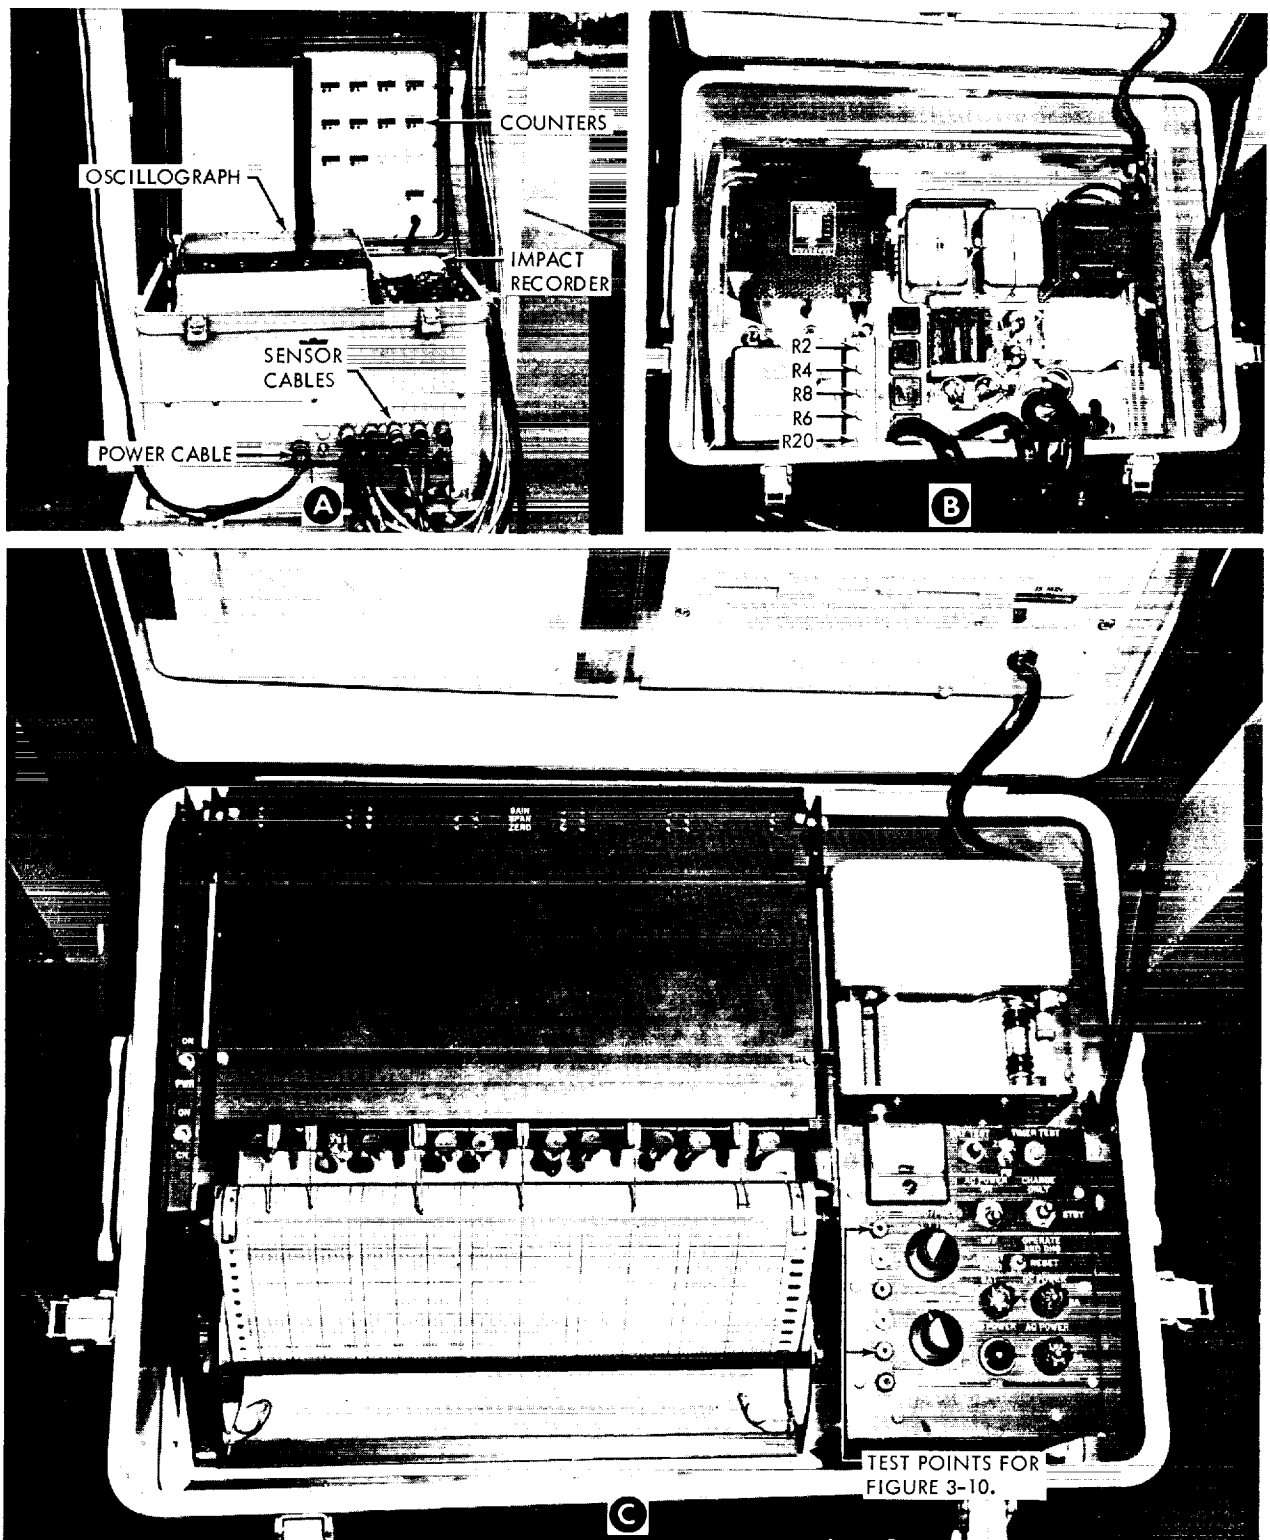

Figure 3-9. Transporter Data Recording Equipment Checkout
3-14. TRANSPORTER DATA RECORDING EQUIPMENT CHECKOUT. Checkout recorder equipment per figure 3-9 as follows:
- g. Connect the cables between the sensor modules and the recorder as per figure 3-9, detail A.
h. Set the control panel switches to the following positions per figure 3-9.
- m. Place the ZERO/F.S. switch in the ZERO position to energize the zero calibration circuits, per figure 3-9, details B and C.
- q. Measure the zero calibrate voltage at the input test point for channel 1 of the oscillograph. If necessary, adjust the channel 1 zero adjust potentiometer to obtain 0.0000 volts per figure 3-9, detail C.
- aa. Measure the voltage at the input test point for channel 5 and 6 on the oscillograph. If necessary, adjust potentiometers R2 and R4 to obtain 1.000 volts inputs, which should align the pen traces with the chart full-scale lines. Remove oscillograph from case per figure 3-9, detail B.
- (4) Change setting of ACCELEROMETER SELECTOR switch and repeat above procedure.
- (5) Press and release TIMER TEST button on control panel. This should cause timer counter to register one count, chart paper to be marked at timer track, and chart transport to advance one step.
- (6) With power applied to recorder, note exact time when timer counter advances, timer channel of chart is marked, and chart advances for the first time.
- (7) Note exact time when above actions occur for second time. Time interval between first and second events should be approximately 15 minutes.
- (8) Press TIMER TEST switch, hold down for approximately 30 seconds, and verify that the zero and full-scale calibrations are marked.
- (9) Tilt pitch and roll module both laterally and longitudinally. The movement of the two pens on the pitch and roll channels of the oscillographic recorder should reflect the attitude of the module. Zero and full-scale deflections of the pens should occur with the module tilted -15° and $+15^{\circ}$ respectively in the pitch direction and -25° and $+25^{\circ}$ respectively in the roll direction.
- (10) Remove cover and four screws and hold hand over cover area of temperature/humidity modules. The pens on the corresponding recorder channels should deflect.
- ai. Replace oscillograph chart paper with 250 foot new roll (Lockheed 4013381-1) per figure 3-9 as follows:
- (1) Release catches on takeup roll and lift out roll.
- (2) Remove rolled chart from takeup roll by unscrewing right end plate, then slide spool out of roll chart to the left.
- (3) Release catches on supply roll and slide roll forward out of oscillograph.
- (4) If part of chart is still on supply roll, push drive roll to the left to disengage drive, then rotate toward front of oscillograph to feed chart through drive roll and onto takeup roll.
- (5) To install chart, slide supply roll hub into chart roll and insert supply roll into catches. Cut or fold in the corners of chart to make chart end triangular. Feed triangular end under guide support bar, then over the drive roll and onto the takeup roll (release and rotate the drive roll as necessary to engage holes in chart with drive roll sprockets). Insert the takeup roll into the catches and secure them. Rotate the drive roll and takeup roll as necessary to ensure chart is aligned and without slack, and tape chart end to takeup core.
- aj. Replace the impact recorder chart roll with a full 150 foot roll as follows per figure 3-9 if the supply is less than 1/4 of a roll.
- (1) Remove chart transport unit from recorder by unscrewing four screws and unplugging cable from chassis.
- (2) Remove knurled screw, and slip off plate supporting outer end of spool shafts. Release spool to be removed by pulling on extended-shaft knob and shifting reel toward the relieved side.
- (3) Pressure roller must be lifted if chart paper is to be pulled through by hand. If a small amount of chart paper is to be advanced, this can be accomplished by hand-rotating the upper drive gearing.
- (4) To insert a new chart roll, feed chart paper under marking pens and index overlay, lift pressure roller and feed chart paper behind frame spacer. Attach chart paper to takeup reel slot on inner edge where it can engage drive pin.
- (5) Wind excess paper onto takeup reel with marking surface on the outside. Insert in transport unit. Be sure that drive pins are in reel slots. Replace support plate and knurled screw.
- (6) Check gear and pulley setscrews for tightness.